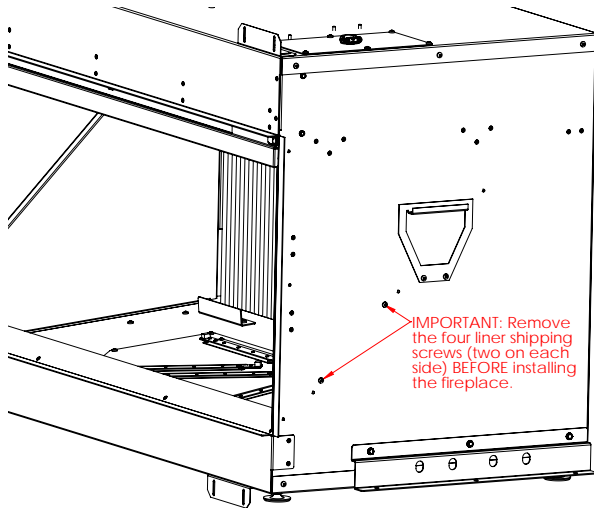

Figure 7: Front Liner Screw Removal
2. Remove the front liner retainer screws (see Figure 7).